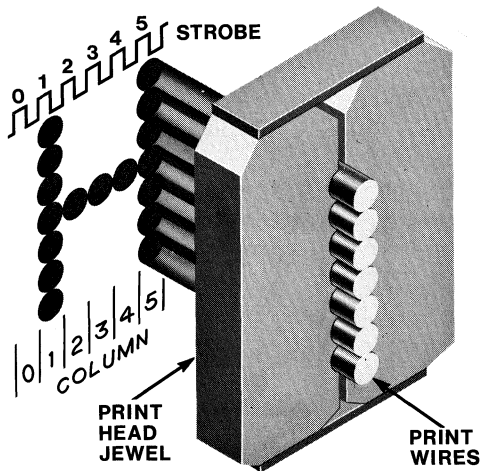

Figure 1-3. PRINTING THE LETTER (H)
1.3.1 CHARACTER PRINTING (Figures 1-3, 1-4)
A small aluminum carriage supports the print head assembly. During printing operation, the carriage travels along the print line from left to right. Printing is accomplished by selectively firing the print wires as the print head moves from left to right across the print line. Printing impulses energize the print solenoids and drive the print wires against the ribbon, paper and platen to form the characters in a dot matrix pattern. When the solenoids are de-energized, the wires are withdrawn so they are flush with the surface of the jewel. Each solenoid can fire independently up to five times for any one character. Figure 1-3 shows an example of the dot matrix forming the letter H. All character formation in the 5 x 7 and 9 x 7 dot matrix are shown in Series 300 Operators Manual.